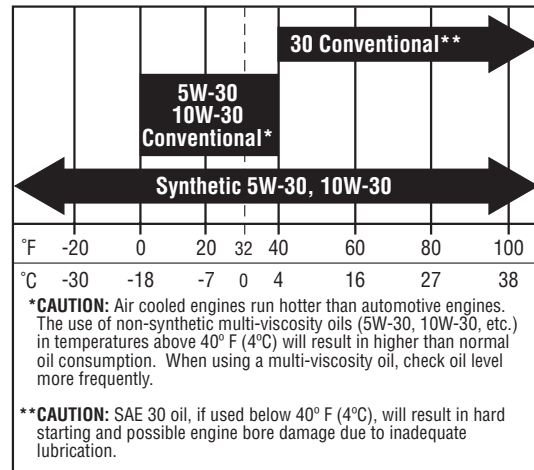
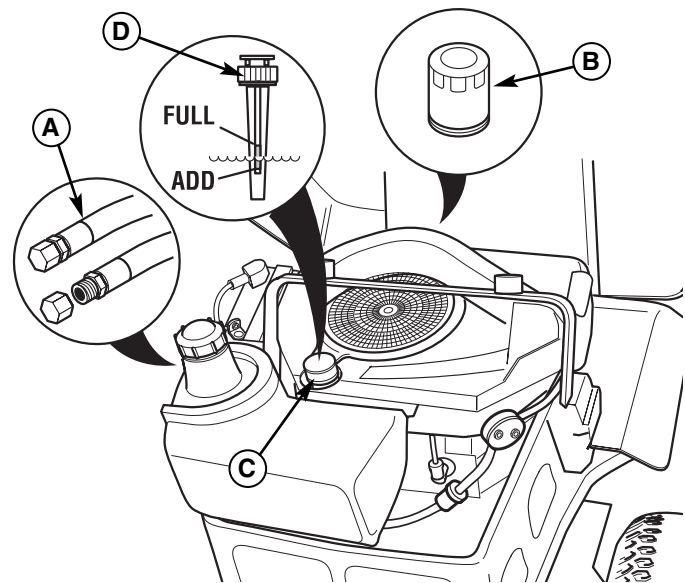

Figure 33. Recommended Engine Oil - Briggs & Stratton Models
Figure 34. Oil Change - Briggs & Stratton Models
2. Clean the area around the dip stick (C, Figure 34).
3. Remove the dip stick (C) and clean it with a paper towel.
4. Insert the dip stick back into the engine. Thread the cap back into the tube (D).
5. Remove the dip stick and read the oil level. The oil level should be between the "FULL" and "ADD" marks (D). If not, add oil according to the oil recommendations chart (Figure 33).
1. Clean the area around the dip stick (C, Figure 34) and oil drain tube (A).
2. Remove the oil drain plug (A) from the end of the oil drain tube. Remove the dip stick (C). Allow ample time for complete drainage.
3. Reinstall the oil drain plug (A) and route the hose next to the engine.
1. Clean the area around the dip stick (C, Figure 34) and oil drain (A).
2. Remove the oil drain plug (A) and dip stick (C). Allow ample time for complete drainage.
3. Remove the oil filter (B). Discard the filter.